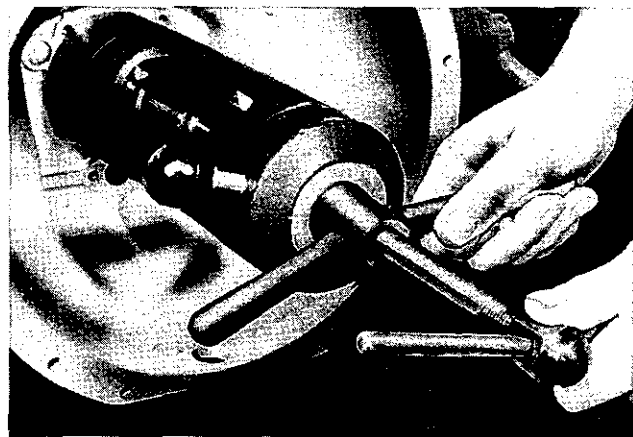

Fig. 6. Extracting constant pinion shaft with Churchill Tool No. 20SM-66
11. Extract the constant pinion shaft assembly as shown in Fig. 6. The further dismantling of this assembly necessitates the removal of the smaller circlip and thrust washers which